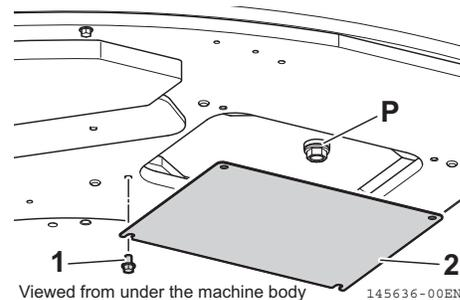

Fig. 8-68
1. Swing the upperstructure so that the drain plug (Fig. 8-68, P) at the bottom of the hydraulic tank will be positioned in the middle of the right and left crawlers.
4. Remove the 4 bolts (Fig. 8-68, 1) on the lower side of the upperstructure, and then the cover (Fig. 8-68, 2).
5. Put the container for waste oil under the drain plug (Fig. 8-68, P).
6. Remove the drain plug (Fig. 8-68, P) and drain the waste oil.
When removing the drain plug (Fig. 8-68, P), take care that the oil does not splash your body.